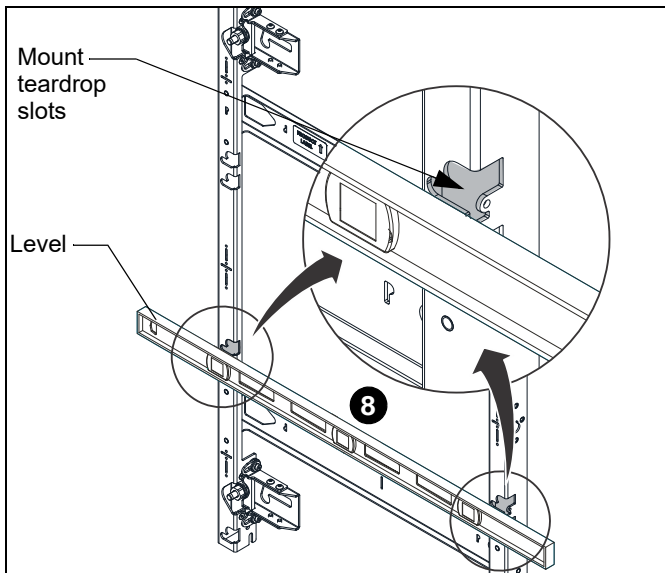

Figure 7
8. Place a level across front of the mount at bottom of teardrop slots. (See Figure 7)
9. Check the level of the mount at the teardrop slots. (See Figure 7)